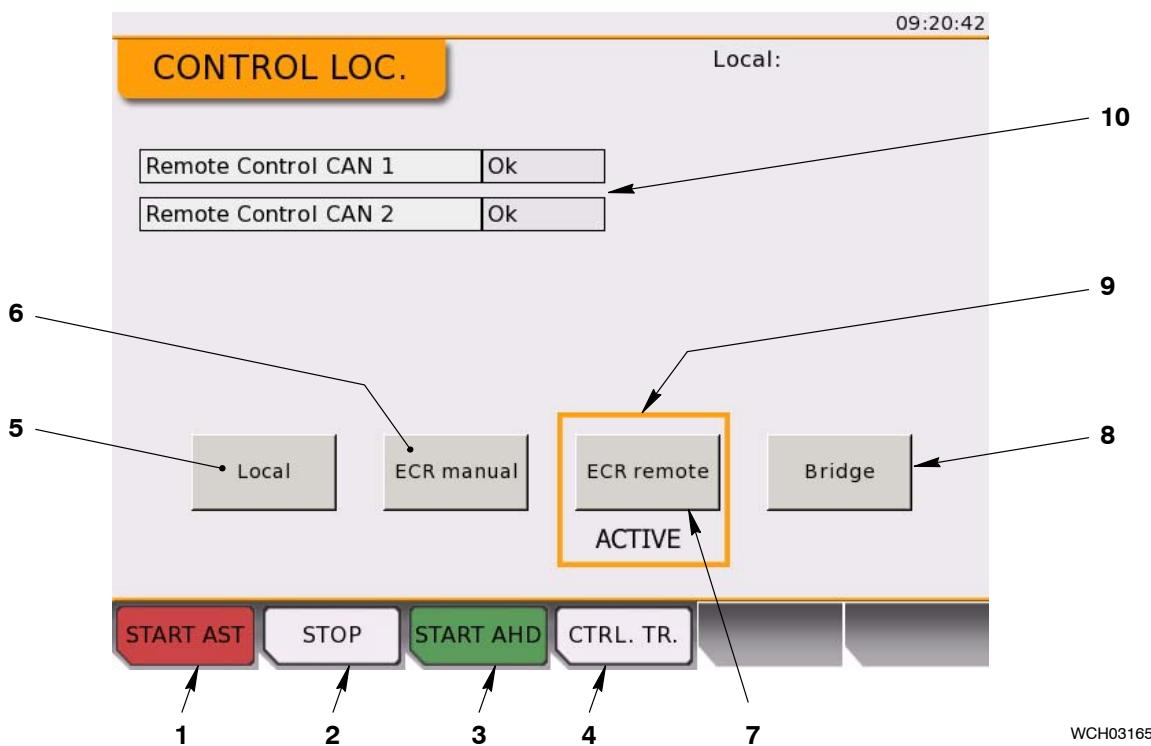

Fig. 6: Control Locations Page
- 1) Push the CTRL. TR. button (4, Fig. 6) to accept control to the LDU-20 at your location.